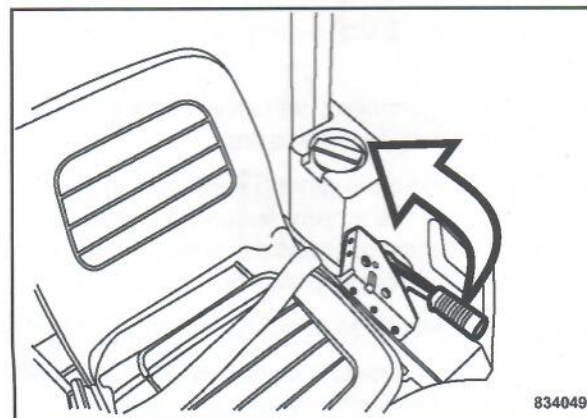

Fig. 37
- Pull up the hand brake lever (Fig. 37).